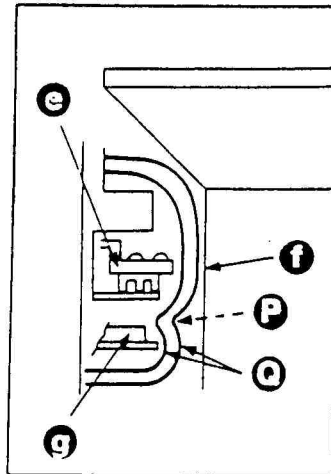

Fig. 20
1) Push the cord ⑥ in the gap of the switch substrate and arrange the length of the cord. (See Fig. 20.)
Note : 1) If the cord ⑥ rounds out, the cord touches to the front lens frame. Therefore, be careful. (See Fig. 20.)
Note : 2) At this time, confirm that the synchro cord does not touch to the contact point ⑥ of the electro-motive set. (See Fig. 20.)